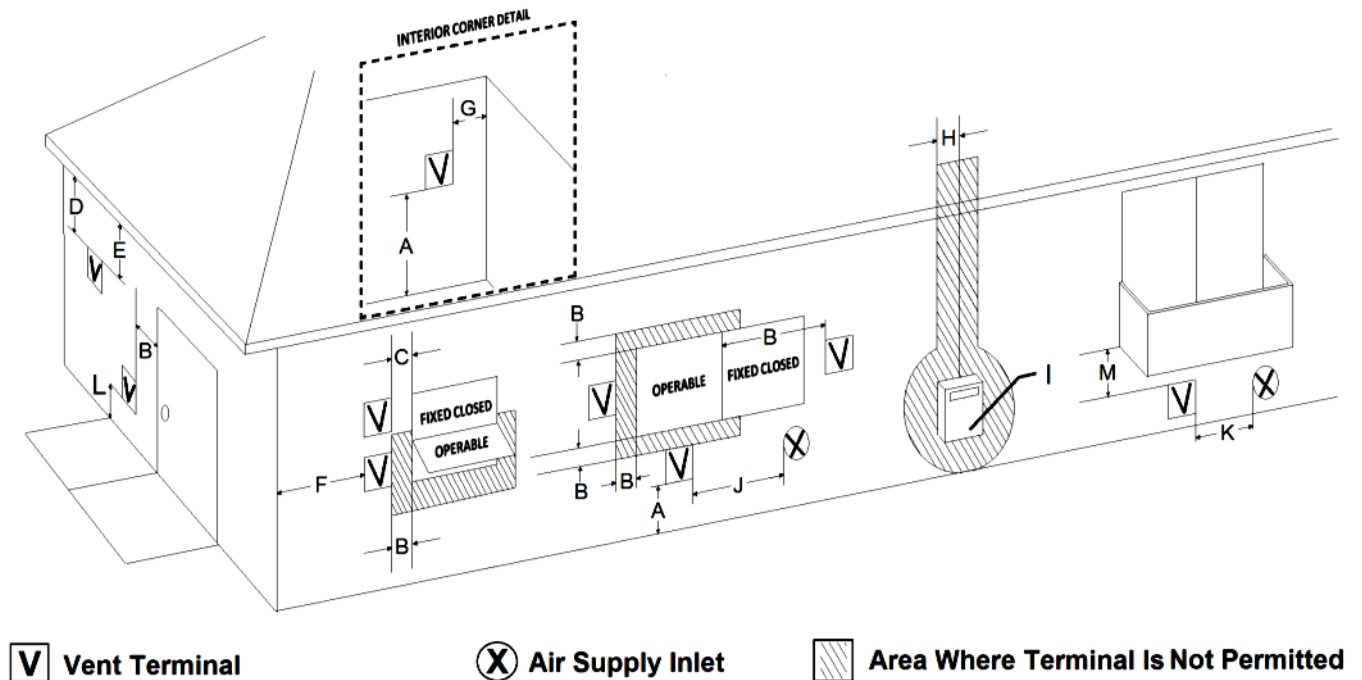

Figure 11 - Acceptable Direct Vent Terminal Vent Cap Locations
- 🔥 The termination must fall within the chart in Figure 11.
- 🔥 The termination must fall within the area shown in Figures 11 & 12.